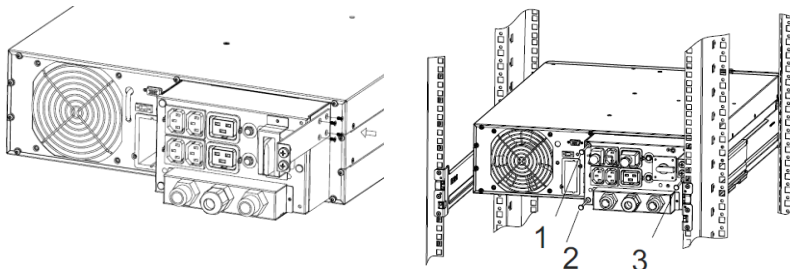

Figure 35: Removing the XANTO S 6000, step 2/3
2. Screw the support bracket to the PDU and disconnect this from the UPS system. Unscrew the three screws to do this. Screw the PDU to the rack (see Figure 35).